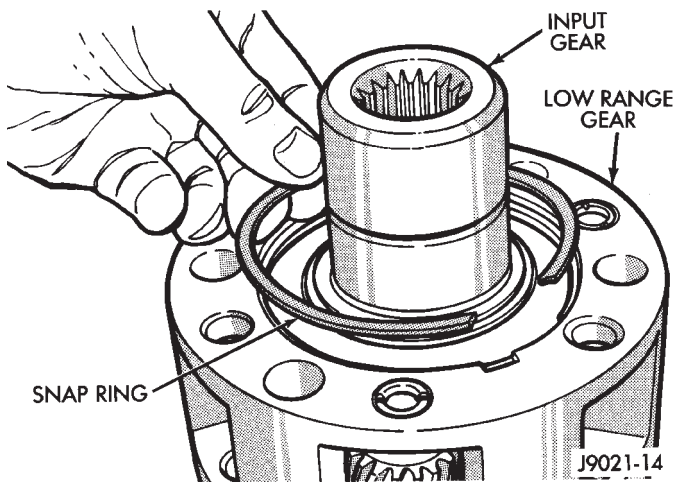

Fig. 26 Removing Low Range Gear Snap Ring
(38) Remove low range gear snap ring (Fig. 26).